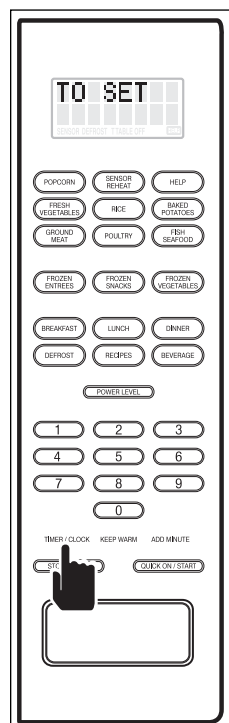

Figure 3-73.
3. To exit Demo Mode, press the **TIMER/CLOCK** again and “**TO SET - KITCHEN TIMER - PRESS 1 - TO SET CLOCK - PRESS 2**” will flash on the digital display (See Figure 3-73).